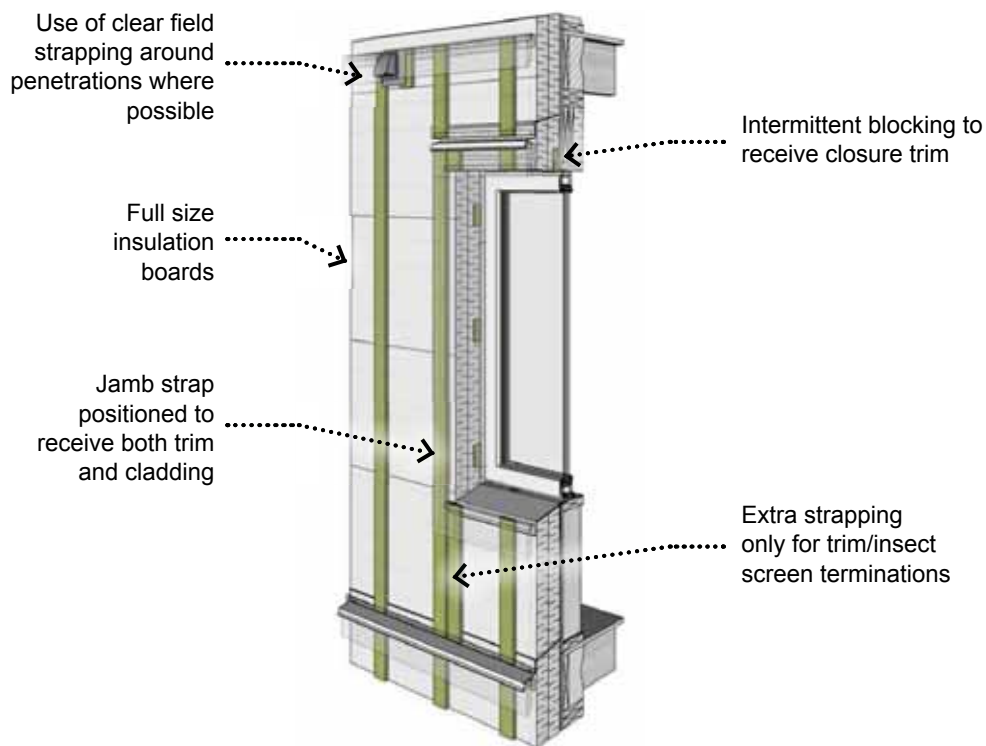

Figure 7 Examples of optimized strapping layout
- › Using intermittent blocking receive closure/return trim and flashing running across the thickness of the exterior insulation (see Figure 7 and Typical Construction Details starting on page 32).